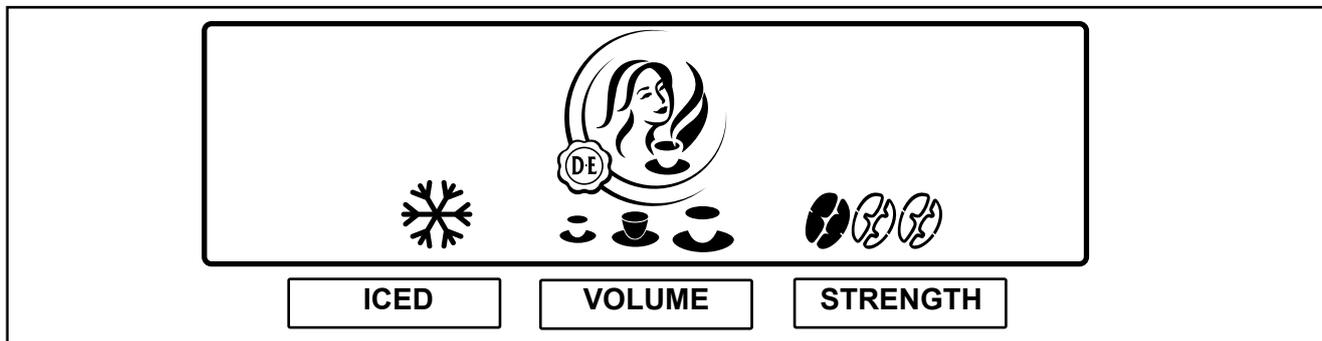

Fig. 16
2. Press the preselection button «STRENGTH» to activate this preselection. Three bean icons are displayed (fig. 16).